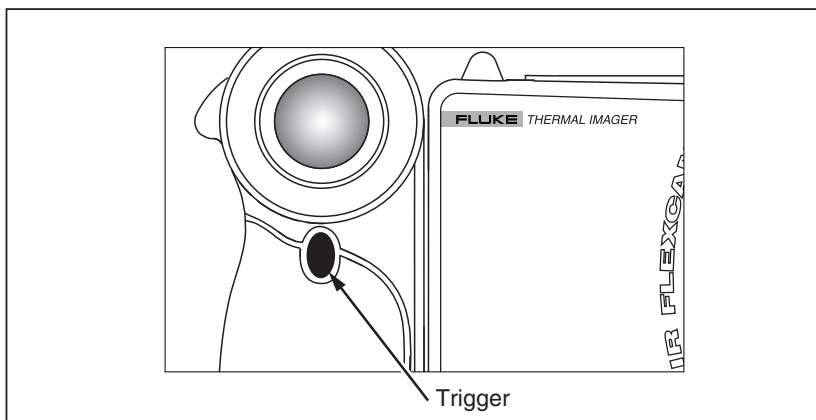

Figure 8. Capturing an Image
3. Tap the trigger button as shown in Figure 8 to retain settings.